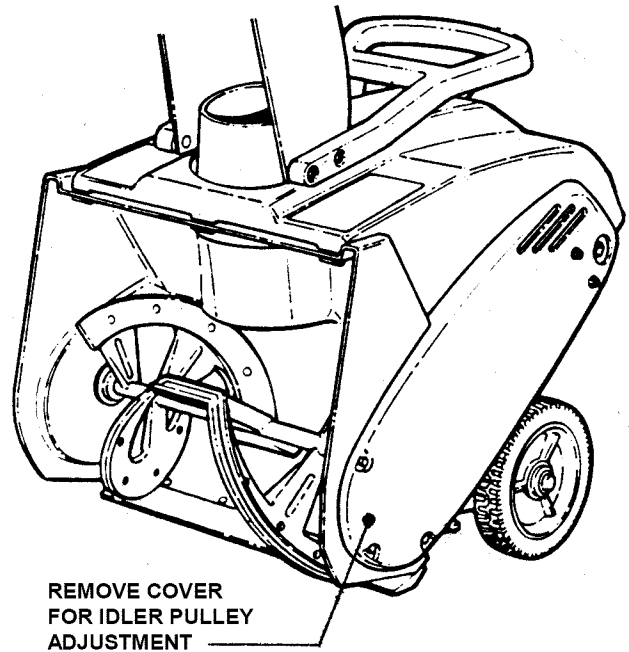

FIGURE 4.2
2. Remove belt cover. See Figure 4.2
- Remove belt cover. See Figure 4.2.